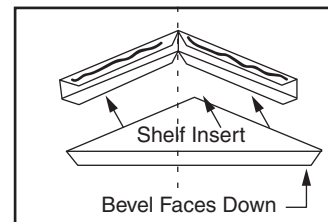

FIG. 3
- 2. Dry-Fit Shelf-** Place corner shelf into corner over mount support bracket with beveled face pointed downward. (**Fig. 3**) Determine if it fits into the shower corner with no gaps. Trim or sand shelf if necessary to ensure a square fit into the shower corner.